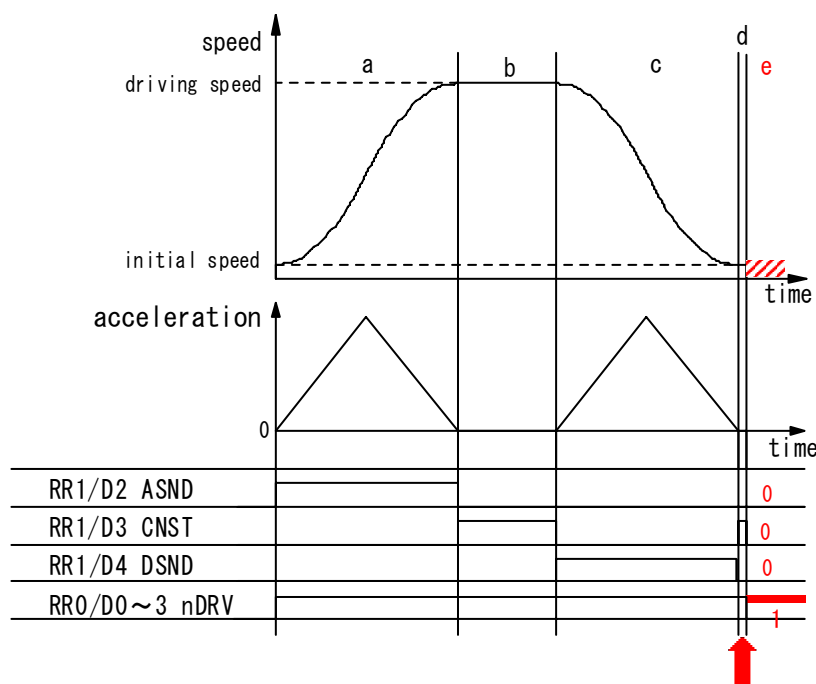

Figure 3. Status of deceleration shown by RR1 register
Deceleration status of accelerating(ASND), constant speed driving(CNST) and decelerating(DSND) can be read out according to RR1 register of IC. The status is shown as Figure 3. as below;
The timing when the trouble may possibly happen is shown as "d" on Figure 3. At this time, status of deceleration is constant speed driving(CNST=1). Besides in case the trouble such as outputting pulse continuously happens, all of ASND, CNST and DSND will become 0 even though it's driving(RR0/nDRV=1).
Basically once deceleration starts, it isn't necessary to execute deceleration stop command. Therefore deceleration stop command should be prohibit. See nRR1/D4(DSND) normally to know it's decelerating or not. Timing when the trouble happens is in "d" as shown on Figure 3 if deceleration stop command is executed. In "d" DSND status bit is 0 and CNST status bit is 1. Therefore the following two(2) solutions will be proposed.
(1) When interruption from IC can be used
Terms when deceleration stop command should be executed in accelerating and constant speed driving such as "a" and "b" on Figure 3. Status of deceleration for both "d" (timing when the trouble happens) and "b" (constant speed driving) is same as constant speed driving as shown on Figure 3. But there is difference of driving speed between two. Driving speed in "b" is near that of setting driving speed. Driving speed in "d" is near that of initial speed. Therefore before driving starts, prepare judgmental speed which is middle one between initial speed and setting speed ($(\text{Driving speed} - \text{initial speed})/2 + \text{initial speed}$). When execute deceleration stop command during driving, make sure status is accelerating(ASND=1) or constant speed driving(CNST=1) and driving speed is same or faster than judgmental speed.
Constant speed area ("b" area) on Figure 3 is set as occurrence factor of interruption. But this interruption is also happened when there is "d" area just before driving stops on Figure 3 such as when driving speed reaches initial speed or when acceleration becomes 0(zero). There should occur "d" area definitely if the trouble is happened just before driving stops, driving speed hasn't reached initial speed yet, acceleration becomes 0 and decelerating stop requirement is executed. The measure is to judge if the trouble happens or not in the timing of interruption when "d" area ends.
- ① Check if driving goes out constant speed area or not. If $RR3/D5(C-END)$ bit of driving axis is 0, there are other interruption factors. Execute those interruption processing.
- ② Check if driving goes into decelerating area or not. If it's $RR1/D4(DSND)=1$, make it finished as it goes because driving goes into "c" area from "b" area on Figure 3. If it's $RR1/D4(DSND)=0$, move it to ③ processing because driving has gone out "d" area.
- ③ Check if driving has finished or not. If it's finished, make it finished as it goes because driving has finished normally. But if it's not finished yet, surely trouble have happened because status is shown as it's still driving even though driving has gone out "d" area.
- ④ Check if hard limit is ON or OFF. Since $RR1/D12$ bit becomes 1 if + limit is ON and $RR1/D13$ bit becomes 1 if - limit is ON, if it's $D12=1$ or $D13=1$, judge forward limit is ON.
- ⑤ If trouble has happened, it becomes $ASND=CNST=DSND=0$. Check them all.
- ⑥ Execute sudden stop command(27h).
(2) When interruption can't be used
In "d" area on Figure 3, if forward limit is active, the trouble will happen, more exactly saying, it will seldom happen. There isn't any method to avoid it before it happens. So immediately after the trouble happens, take means to stop driving. If the trouble happens ("e" area on Figure 3), status keeps driving($RR0/nDRV=1$), status of acceleration/deceleration is 0 in ASND, CNST, DSND. This is completely abnormal state. So the example of measure is shown as follows;